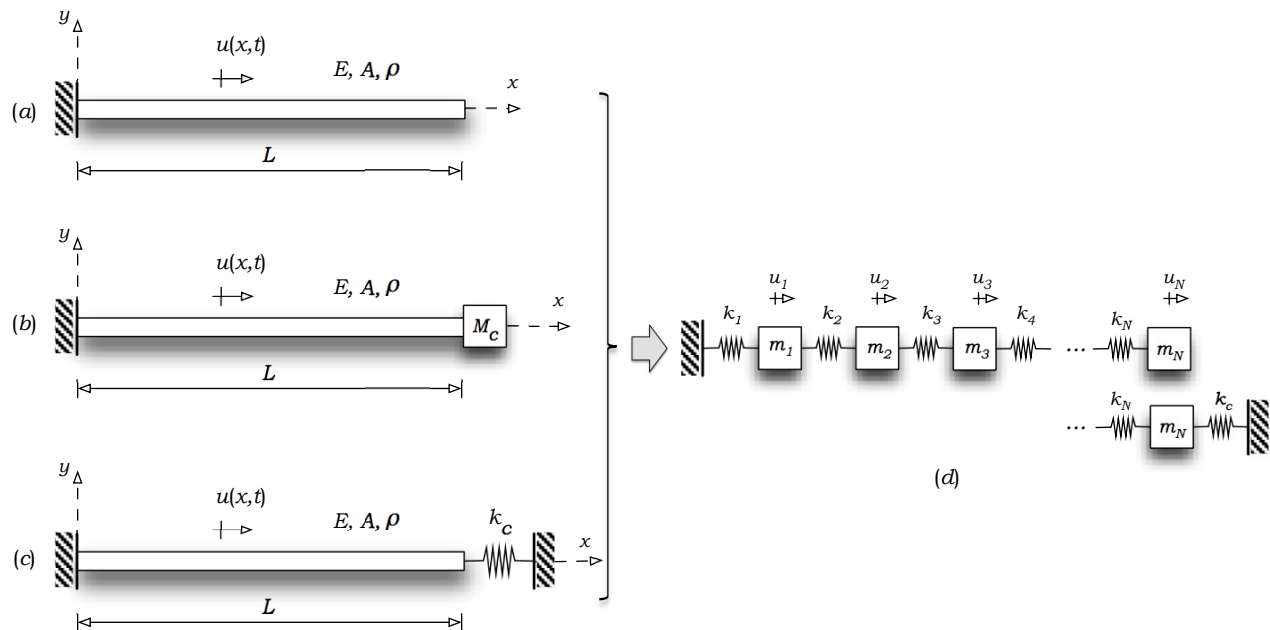

Figure 1: Distributed parameter and discrete models
The system under investigation is shown in Fig. 1 and consists of a shaft that is clamped at one end and presents different boundary conditions at the other end. Figure 1a shows the shaft with a free end, while Figs. 1b and 1c show the right end of the shaft connected to a lumped mass M_c and a linear translational spring k_c , respectively. For all three cases shown you are asked to formulate discrete models and Fig. 1d presents a suggestive way of conducting the discretization procedure. You will have to choose an appropriate number of degrees of freedom N for your discrete models by calculating the discrete parameters $k_i, m_i, i = 1 \dots N$. Assuming that you will solve the problem with the aid of a computer language, the idea is to start with a minimum value for N and increase it such that the discrete model's dynamic behavior compares with the solution of the corresponding distributed parameter model. Each degree of freedom specified for the discrete model must be associated to an absolute displacement $u_i(t)$ that can be later compared with the longitudinal displacement $u(x, t)$ from the solution of the partial differential equation of motion for the system.
A major task expected from you is to obtain a representative discrete model for each situation shown in Fig. 1. There are different ways to define the representativity of a discrete model. In the present case, you can, for example, take the first M undamped natural frequencies of the discrete model of N degrees of freedom (with $M < N$) and compare them to the corresponding values of the distributed parameter model. The following steps are suggested in the process solution:
- Formulate a distributed parameter model for each one of the systems shown in Fig. 1. Obtain for each model the undamped natural frequencies and eigenfunctions.
- Once you have defined the final order for your discrete models (N) determine their free undamped and damped response, comparing once again with the solution for the distributed parameter model.